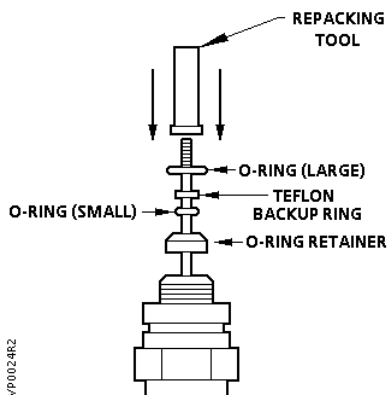

Figure 5. Repacking the O-rings.
5. Slide the O-ring retainer into the bonnet with the tapered surface facing up. Slip the small O-ring and the backup ring over the stem threads onto the smooth portion of the stem. With the repacking tool push both down into the cavity of the O-ring retainer. Slide the large O-ring into the bonnet cavity. See *Figure 5*.